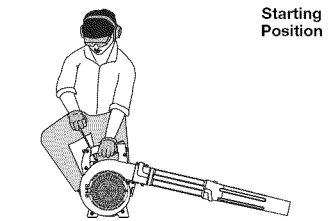

Fig. 10
WARNING: Avoid accidental starting. Make sure to be in the starting position when pulling the starter rope (Fig. 10). To avoid serious injury, the operator and unit must be in a stable position while starting.
5. Crouch in the starting position and pull the starter rope 5 times (Fig. 10).